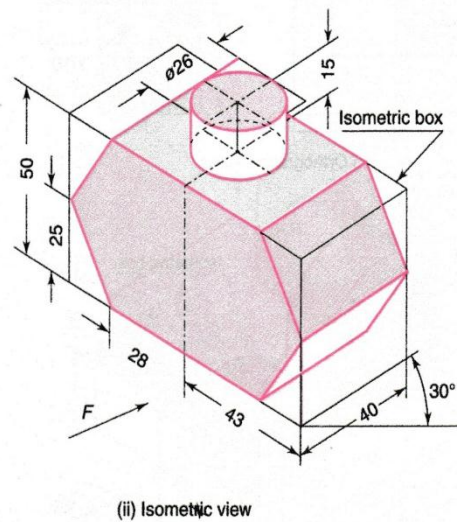

Fig. 13.61 Ink Pot
Front and top views of the ink point are shown in Fig. 13.61 (i). Draw its isometric view.
**Solution** Refer Fig. 13.61 (ii)